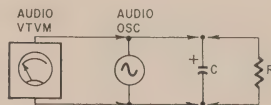

Fig. 2—Test setup.
To check an electrolytic, connect an audio vtvm across the output of an audio oscillator set for 50 cycles. Connect the oscillator output across the capacitor (C), as shown in Fig. 2. Set the oscillator output and the range of the vtvm for a zero reading on the decibels scale of the meter. Note the reactance in the table to be expected